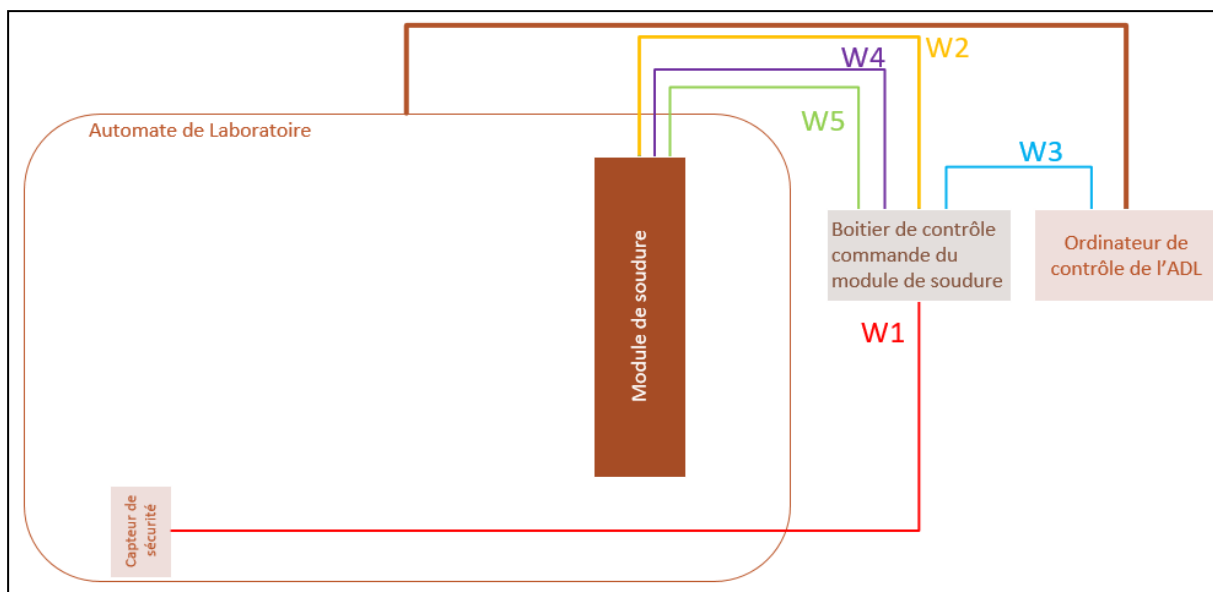

Figure 9: Simplified wiring diagram
- Connect the different communication cables between the control box and the sealing module (see Figure 9);
- Connect the communication cable between the LAS and the sealing module control box (Cable W3 – see Figure 9);
- Connect the safety sensor to the module control box (Cable W1 – Figure 9) (SELV port)